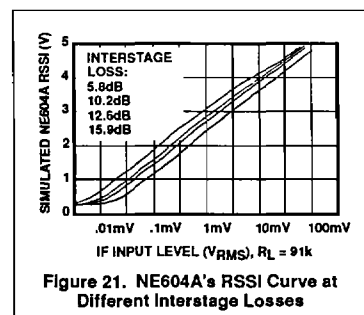

Figure 21. NE604A's RSSI Curve at Different Interstage Losses
**Interstage Loss:** Figure 21 plots the simulated IF RSSI magnitude response for various interstage attenuation. The optimum interstage loss is 12dB. This has been chosen to allow the use of various types of filters, without upsetting the RSSI's linearity. In most cases, the filter insertion loss is less than 12dB from point A to point B. Therefore, some additional loss must be introduced externally. The easiest and simplest way is to use an external resistor in series with the internal build out resistor (Pin 14 in the NE604A, Pin 16 in the NE605). Unfortunately, this method mismatches the filter which might be important depending on the design. To achieve the 12dB insertion loss and good matching to the filter, an L-pad configuration can be used. Figure 22 shows the different set-ups.